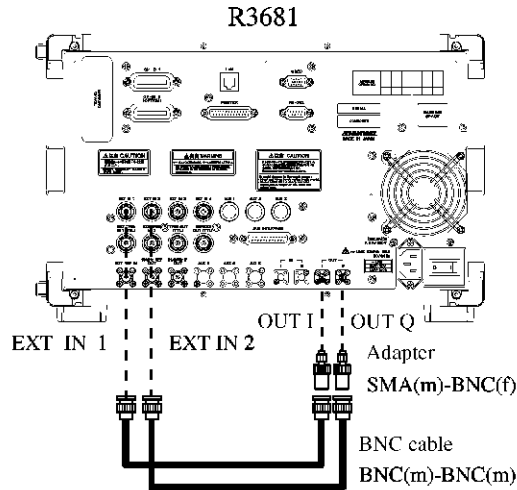

Figure 8-25 Bit Error Rate Counter Verification Connection Diagram
2. Connect the instruments as shown in Figure 8-25.